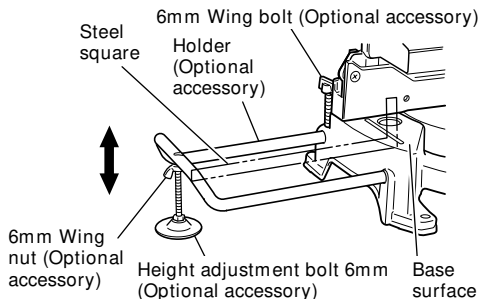

Fig. 18
- (1) As indicated in **Fig. 18**, use a steel square for aligning the upper edge of the holders with the base surface. Loosen the 6 mm wing nut. Turn a height adjustment bolt 6 mm. Adjust the height of the holder.